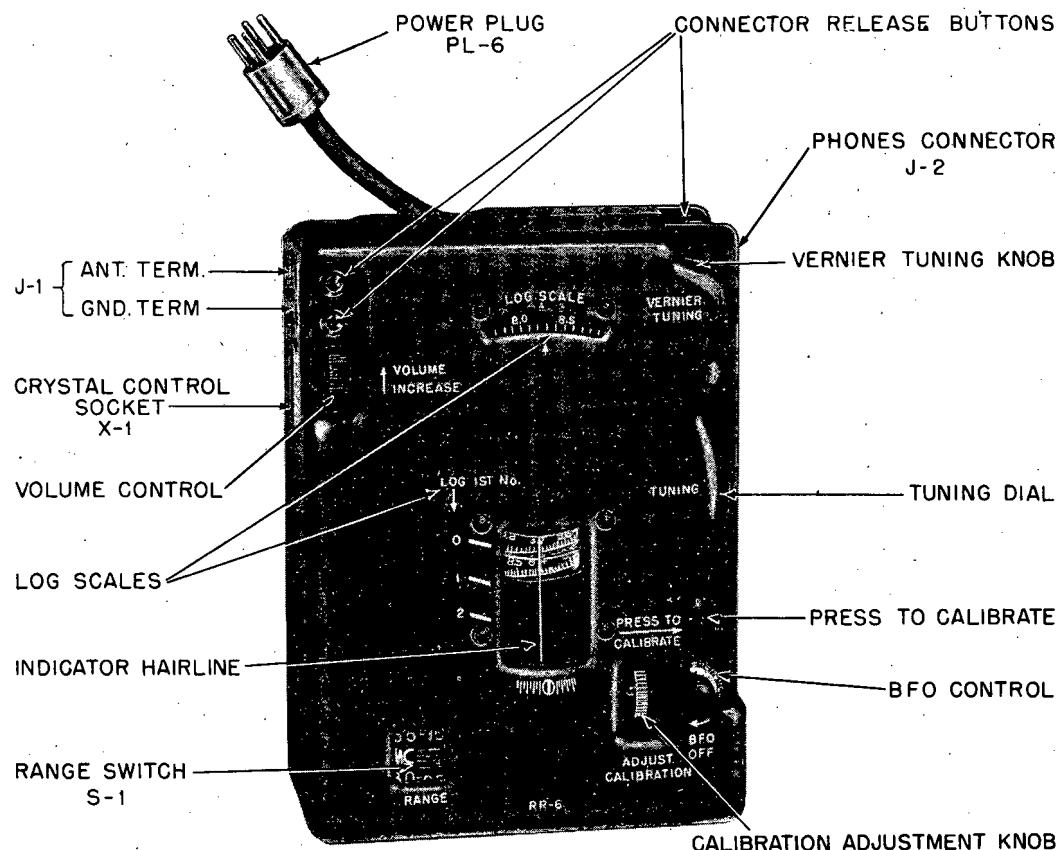

Figure 10. Receiver RR-6 showing control locations
1. CONTROLS & FUNCTIONS (See Figure 10).
e. If the indicator hairline (Figure 10) is not exactly over a megacycle or half-megacycle calibration point, turn ADJUST CALIBRATION until the hairline coincides with the closest calibration point.
a. Set RANGE switch (Figure 10) for proper frequency band - "red" for high band (6.5 to 15 mc) and "blue" for low band (3 to 6.5 mc).
a. Plug specified crystal in CRYSTAL CONTROL socket (Figure 10). NOTE: Oscillator frequency is 455 kc higher than the received frequency.